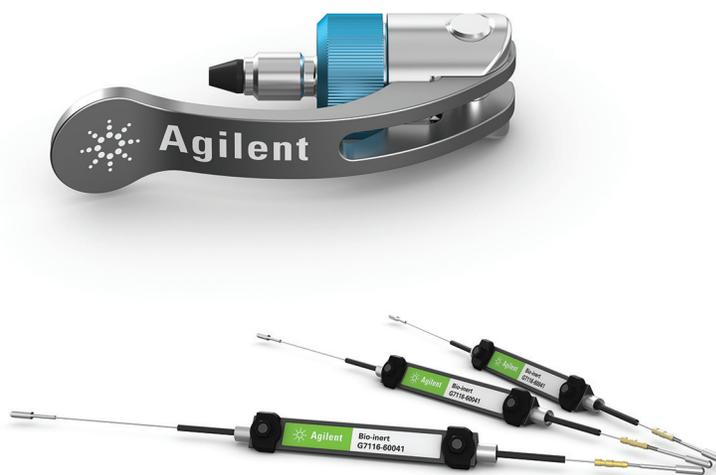

Figure 1. Agilent InfinityLab Quick Connect fittings and Agilent InfinityLab Quick-Connect heat exchangers.
- Revolutionary Agilent InfinityLab Quick Connect UHPLC column fittings for dead-volume-free fluidic connections that enable efficient, fast, and convenient column exchange. In addition, easy-to-install precolumn Agilent InfinityLab Quick-Connect heat exchangers are available for precolumn solvent heating (Figure 1).